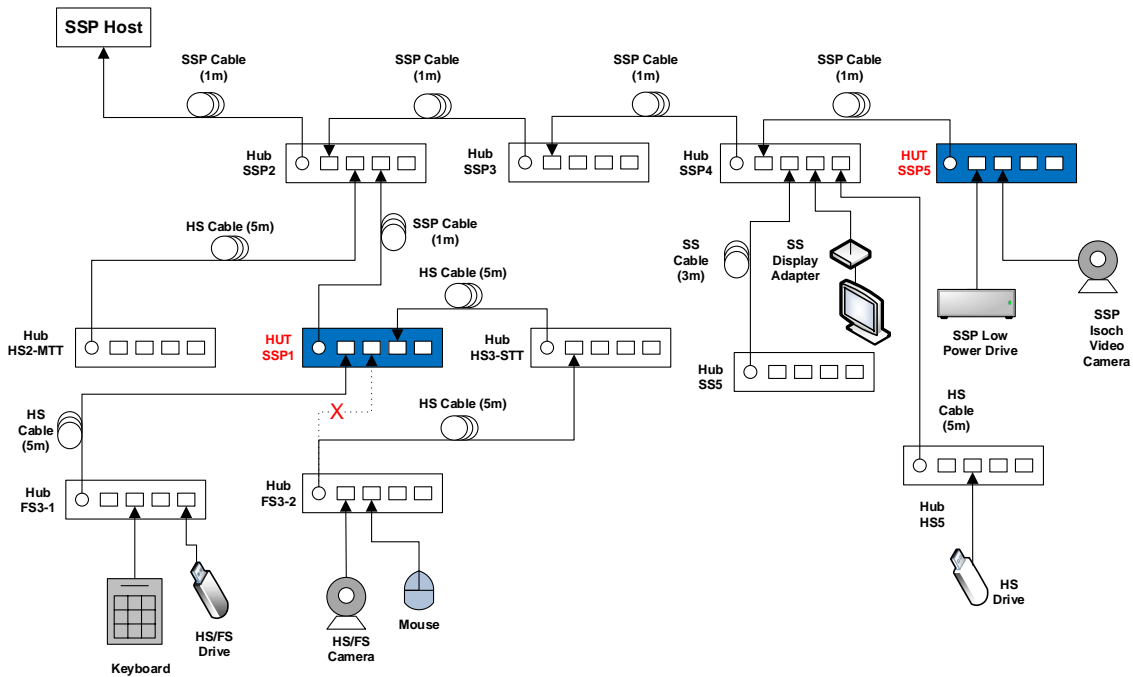
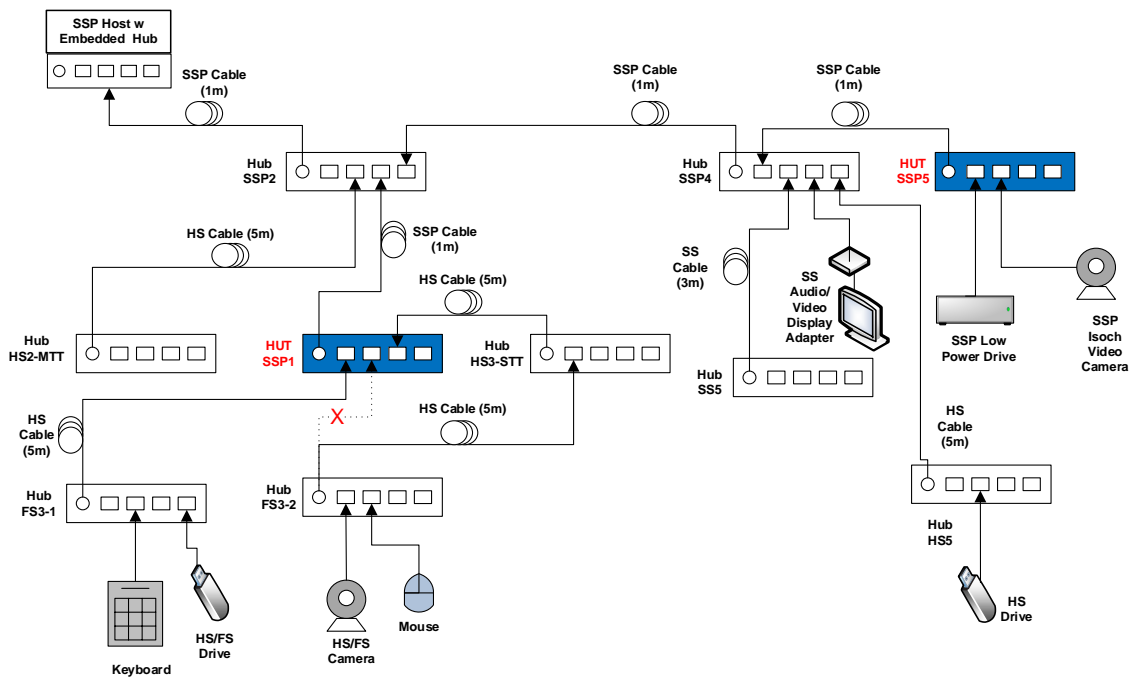

Figure 3-5: Topology Change 1 - Single-TT Hubs Only
Figure 3-6: Topology Change 1 - Single-TT Hubs Only (embedded hub)
- Detach Hub FS3-2 from port 2 on the Hub Under Test and attach the Hub FS3-2 to port 1 on Hub HS3-S TT. This should set the configuration to what is displayed in Figure 3-5 and Figure 3-6.